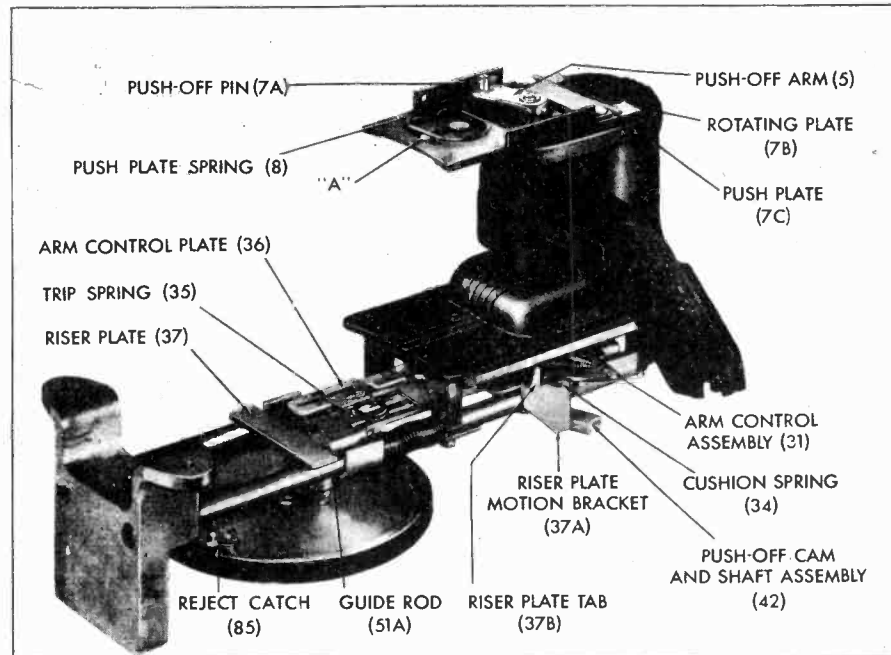

FIGURE 5.
11. RE-POSITIONING PUSH-OFF ARM (5). (See Figure 5.)
(b) Manually slide the push plate (7C) over the rotating plate (7B) until a piece of metal 3/32 inch in diameter or a #8-32 Bristol wrench can be inserted into the opening at the front of the center slot in the push plate (see "A", figure 5).